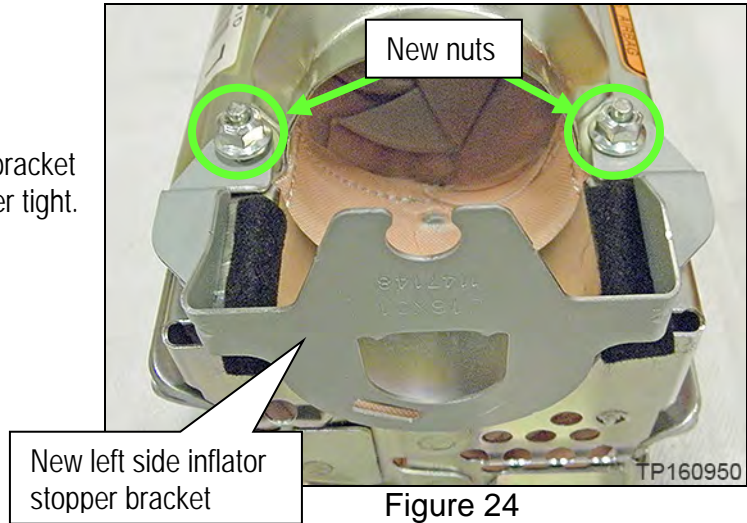

Figure 24
- d. Install the new left side inflator stopper bracket (shown in Figure 24) with new nuts finger tight.